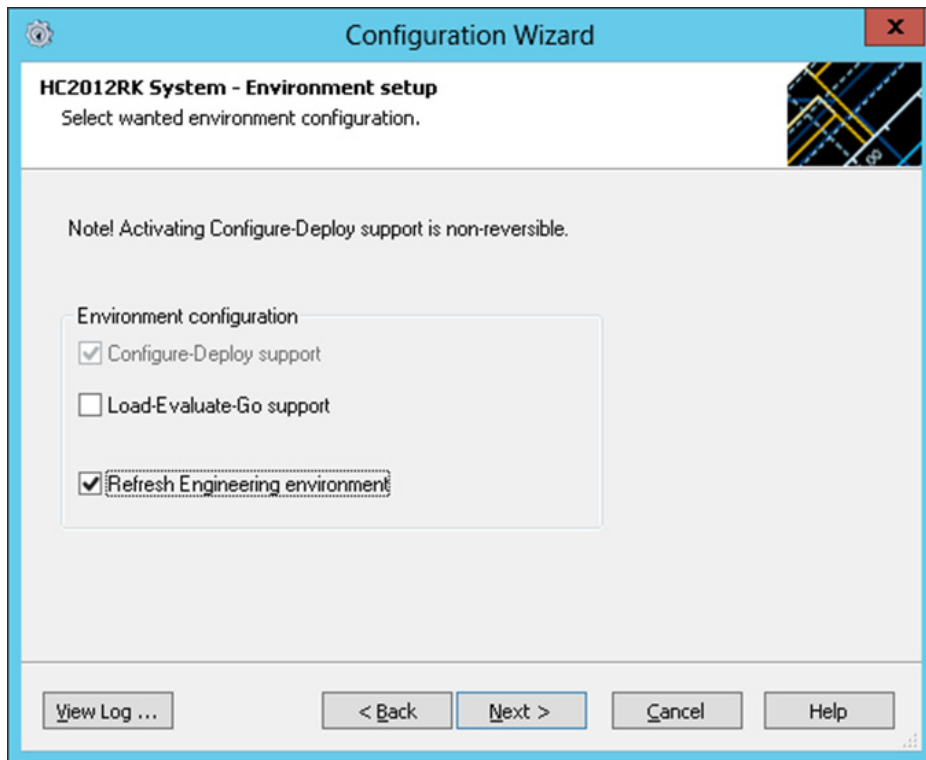

Figure 53. Refresh Engineering Environment Selection Dialog
5. Select **Refresh Engineering environment** option in Configuration Wizard to copy newly created Harmony OPC Server Network object to Engineering environment as shown in Figure 53.